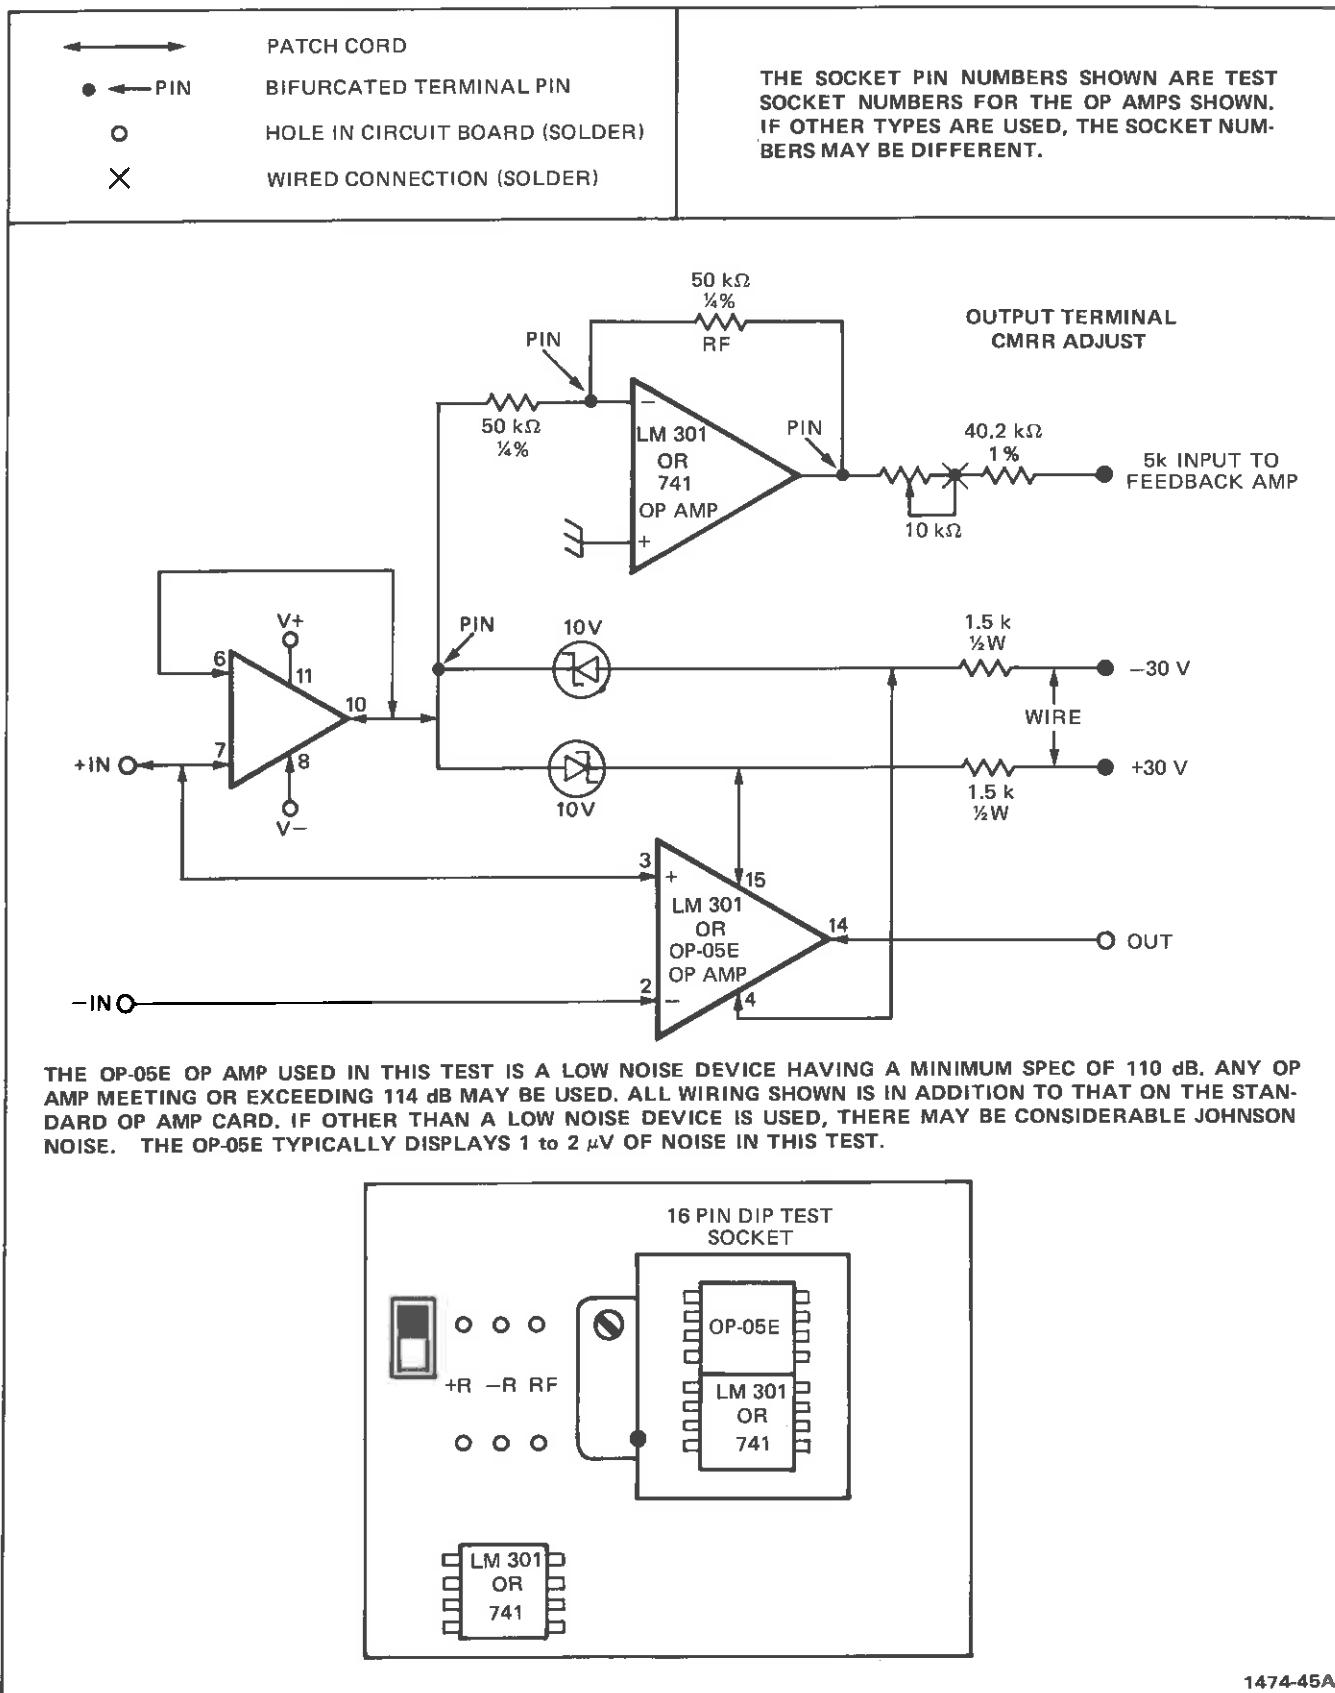

Fig. 5-6. Test circuit for CMRR adjust.
b. Construct the circuit of Fig. 5-6 on the standard Op Amp card. This method uses an op amp having good CMRR and drives its terminals common mode, thereby improving the op amp cmrr to ≈ 160 to 180 dB.
k. Press the DISPLAY ZERO button. Switch the External Feedback selector (to the left of the test socket, see Fig. 5-6), away from the NORM position.